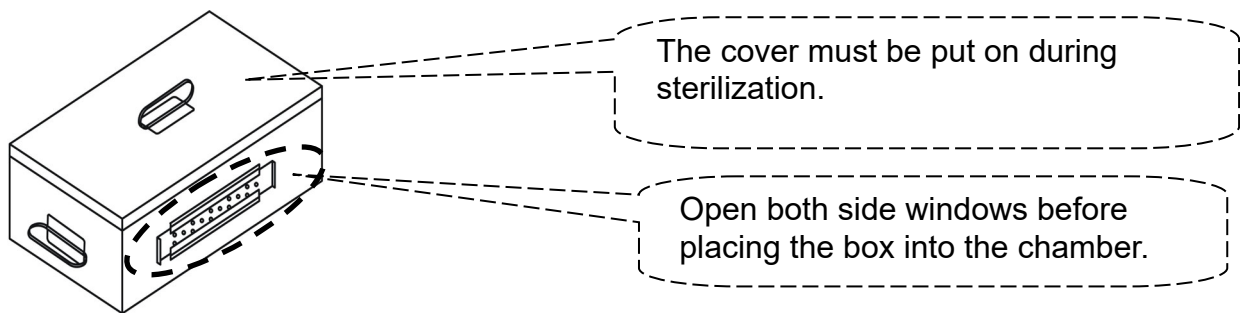

Figure 38
- D. Place the items to be sterilized and the sterilization indicator strips (or biological indicator) into the box as required. Remember to open both side windows before placing the box into the sterilizer as Figure 38.